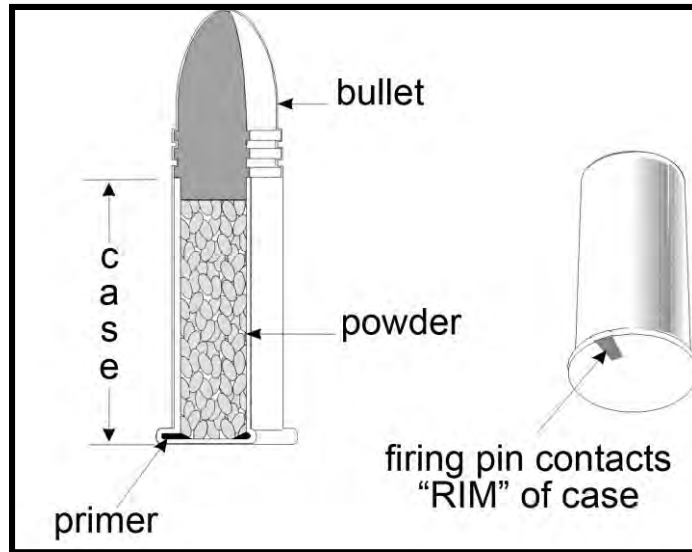

Figure 21. Rim-fire Cartridge
- a. **Rim-fire** ammunition's priming chemical fills the space inside the bottom rim of a thin brass or copper cartridge casing. The soft rim dents when struck by the firing pin. This crushes the priming compound. It explodes, and this ignites the powder (Figure 21).